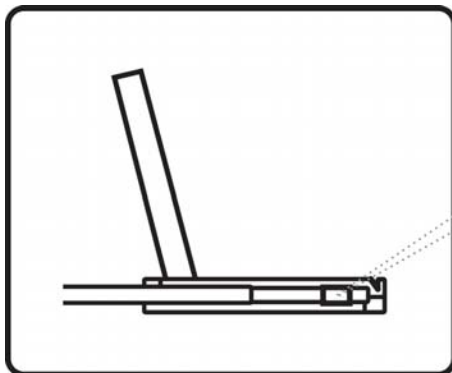

Figure 9
- A black arrow release button is located on the outside of each slide. (shown in **Figure 9**).